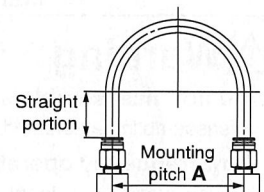

Fig. 1 Recommended piping configuration
1. When connecting tubes using One-touch fittings, provide some spare tube length as shown in Fig. 1, recommended piping configuration.